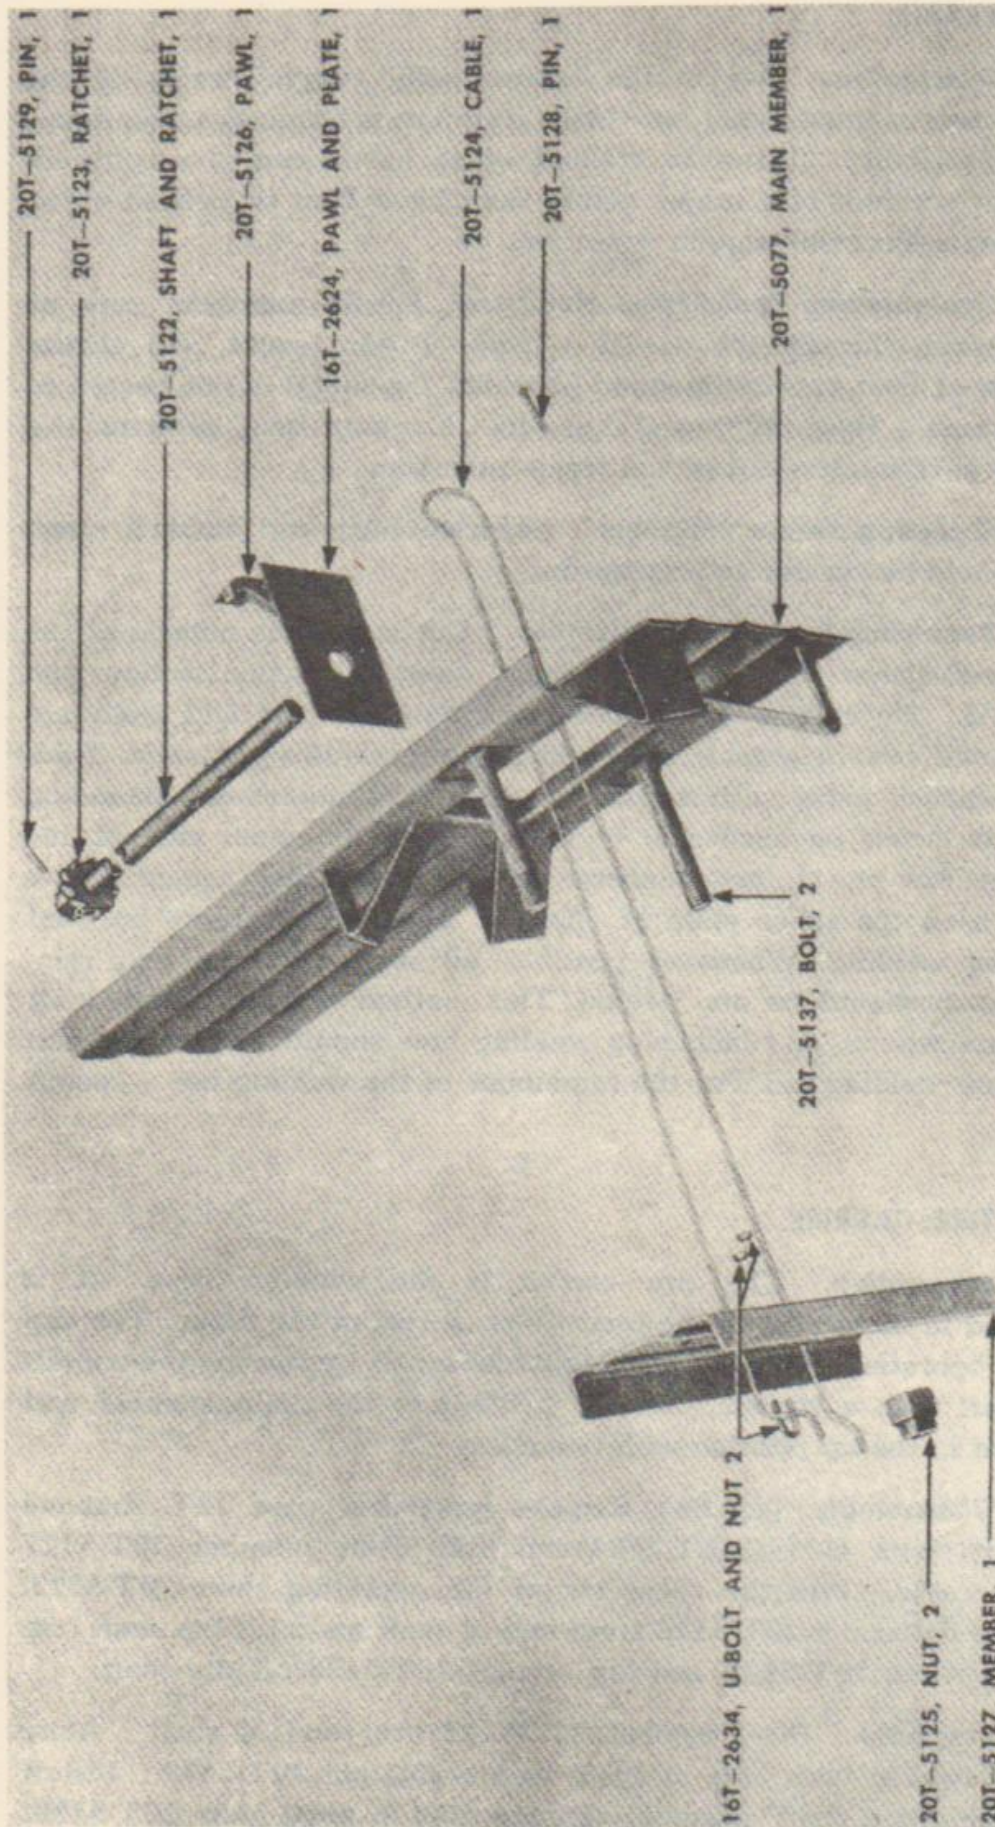

FIGURE 84. TIRE CARRIER—EXPLODED VIEW
b. Disassembly (fig. 84). Remove spare tire (para. 10). Remove two nuts from U-bolt 16T-2634 and pull lifting member 20T-5127 off the cable. Pull the cable out of the operating shaft 20T-5122. Remove cotter pin 20T-5128 from end of shaft and pull the shaft out. Drive out pin 20T-5129 and tap ratchet 20T-5123 off the shaft.